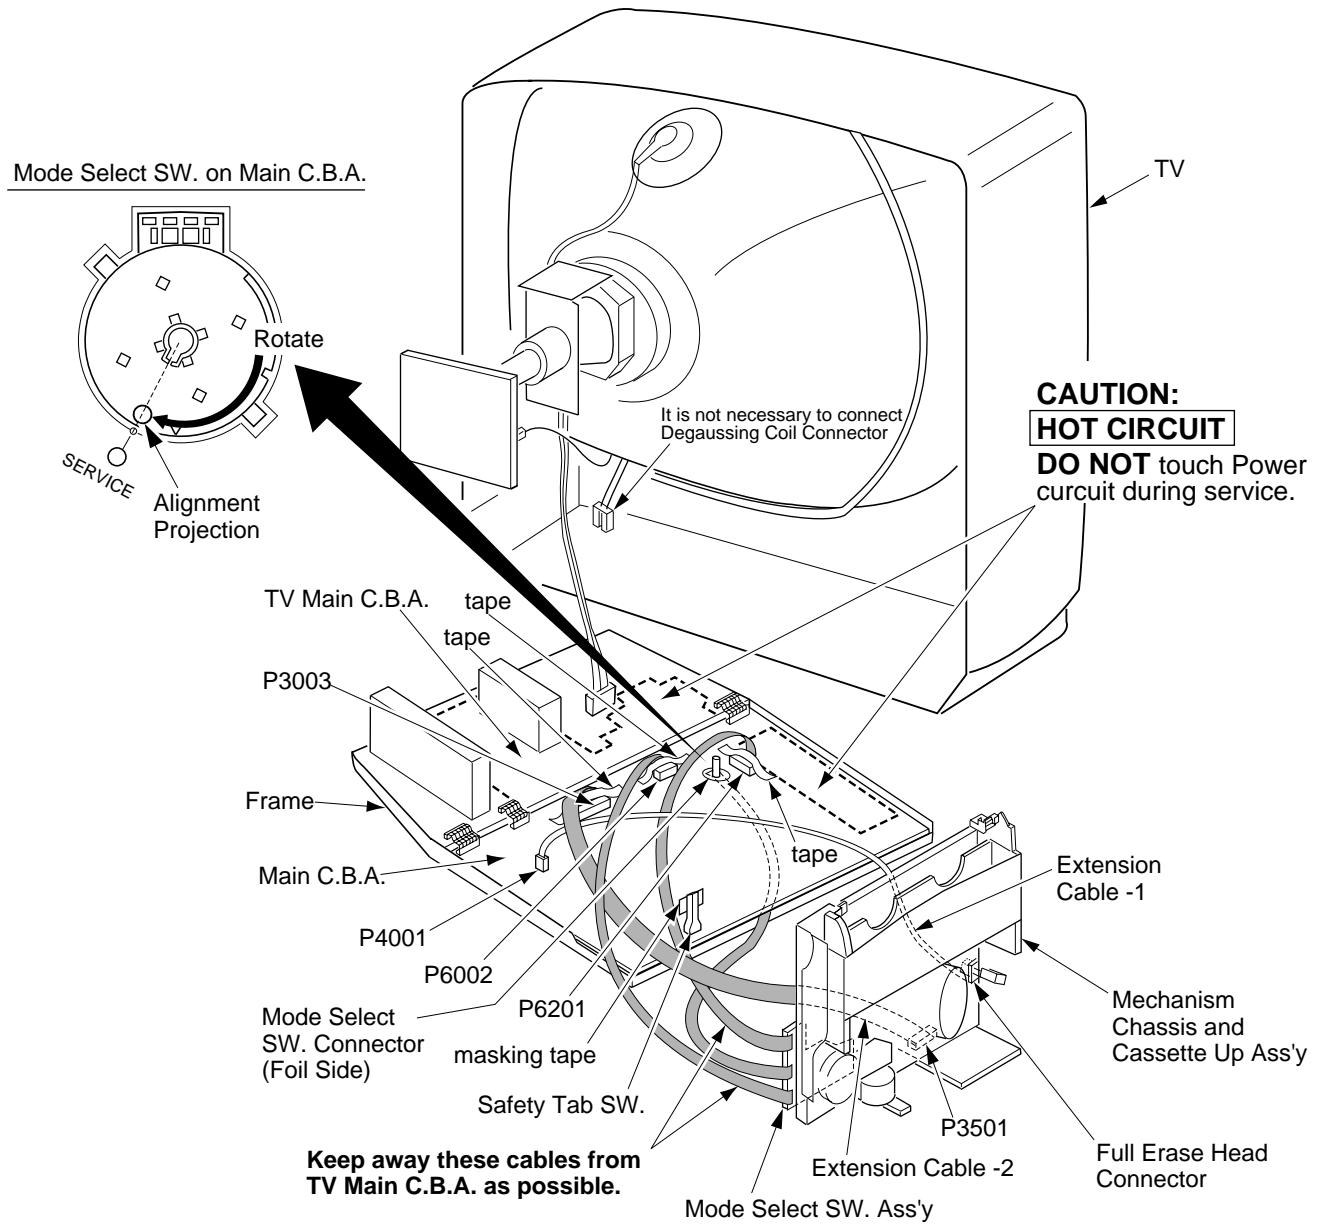

Fig. 3-1
3. Place the VCR Unit as shown in Fig. 3-1.
in Fig. 3-1. When recording, cover the Safety Tab SW. with masking tape to turn this SW. on.
To avoid damaging the connectors on Main C.B.A., it is necessary to secure connectors with tape as shown in Fig. 3-1.